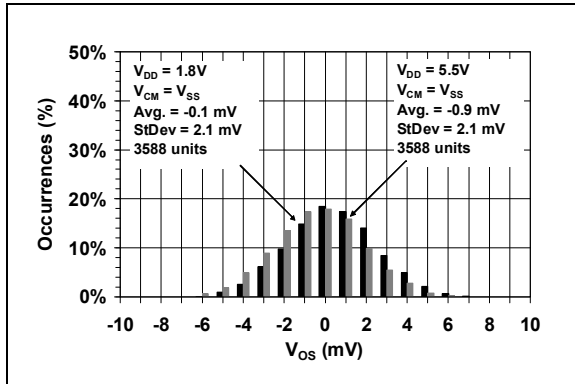

**FIGURE 1-1:** AC and DC Test Circuit for the Push-Pull Output Comparators.
**Electrical Characteristics:** Unless otherwise indicated:  $V_{DD} = +1.8\text{V}$  to  $+5.5\text{V}$ ,  $V_{SS} = \text{GND}$ ,  $T_A = +25^{\circ}\text{C}$ ,  $V_{IN+} = V_{DD}/2$ ,  $V_{IN-} = V_{SS}$ ,  $R_L = 10$  k $\Omega$  to  $V_{DD}/2$  (see Figure 1-1).
**Electrical Characteristics:** Unless otherwise indicated:  $V_{DD} = +1.8V$  to  $+5.5V$ ,  $V_{SS} = GND$ ,  $T_A = 25^\circ C$ ,  $V_{IN+} = V_{DD}/2$ ,  $V_{IN-} = V_{SS}$ ,  $R_L = 10\text{ k}\Omega$  to  $V_{DD}/2$ , and  $C_L = 25\text{ pF}$ . (see Figure 1-1).